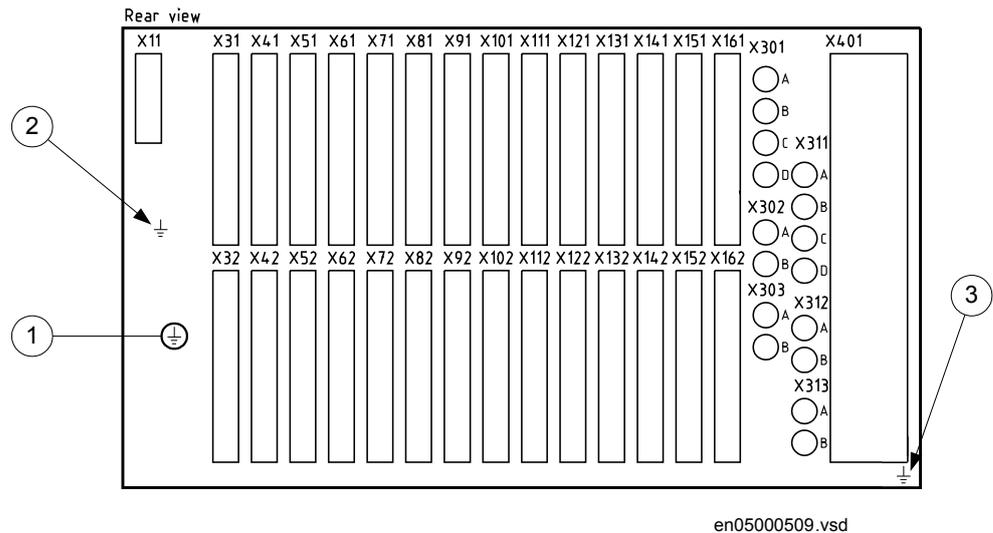

Figure 30: Rear view of IED showing earthing points.
- 8 Connection made in the Signal Matrix, which connects this current input to first input channel of the preprocessing function block (10). For high impedance differential protection preprocessing function block in 3ms task shall be used.
Connect the earthing screw (pos 1 in figure 30) on the rear of the IED to the closest possible earthing point in the cubicle. Electrical codes and standards require that protective earth cables are green/yellow conductors with a cross section area of at least 2.5 mm² (AWG14). There are several protective earthing screws on an IED. The Power supply module (PSM), Transformer input modules (TRM) and the enclosure are all separately earthed, see figure 30 below.